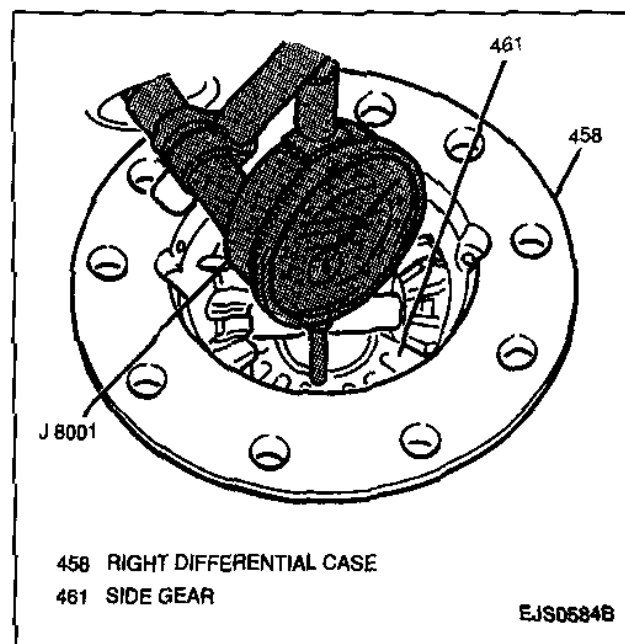

Figure 58—Measuring Right Differential Side Gear End Play
- Right differential side gear end play using a J 8001 (Figure 58). Insert fingers through the bottom openings of the right differential case half and move the right differential side gear up and down while observing the J 8001. Right differential side gear end play should measure 12 to 37 mm (0.005 to 0.014-inch). If right differential side gear end play is too high or low, replace the selective shim with the appropriate size to obtain correct end play.